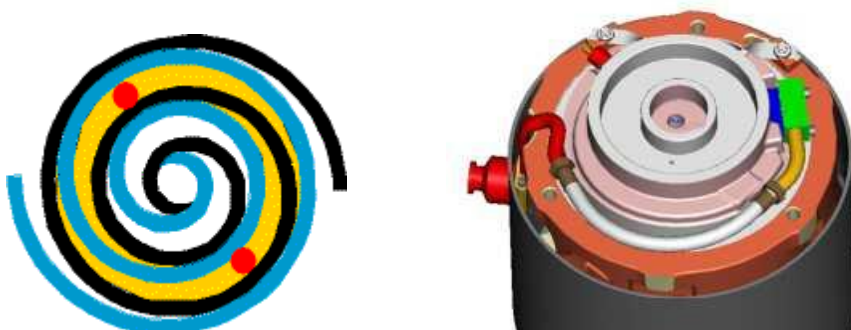

**Figure 1: Circuit diagrams showing the main circuit, mass flow rate  $m$ , the economizer circuit and the mass flow rate  $i$**
As shown in **Figure 1**, a portion of the condensed liquid  $i$  is expanded through an expansion valve into a counterflow brazed-plate heat exchanger (HX), which acts as a subcooler. The superheated vapour is then injected into an intermediate vapour injection port in the scroll compressor. The additional subcooling increases the evaporator capacity by reducing the temperature of the liquid from  $T_{Li}$  to  $T_{Lo}$ , thus reducing its enthalpy. The additional condenser mass flow,  $i$  gives a corresponding increase in the heat rejection at the condenser.